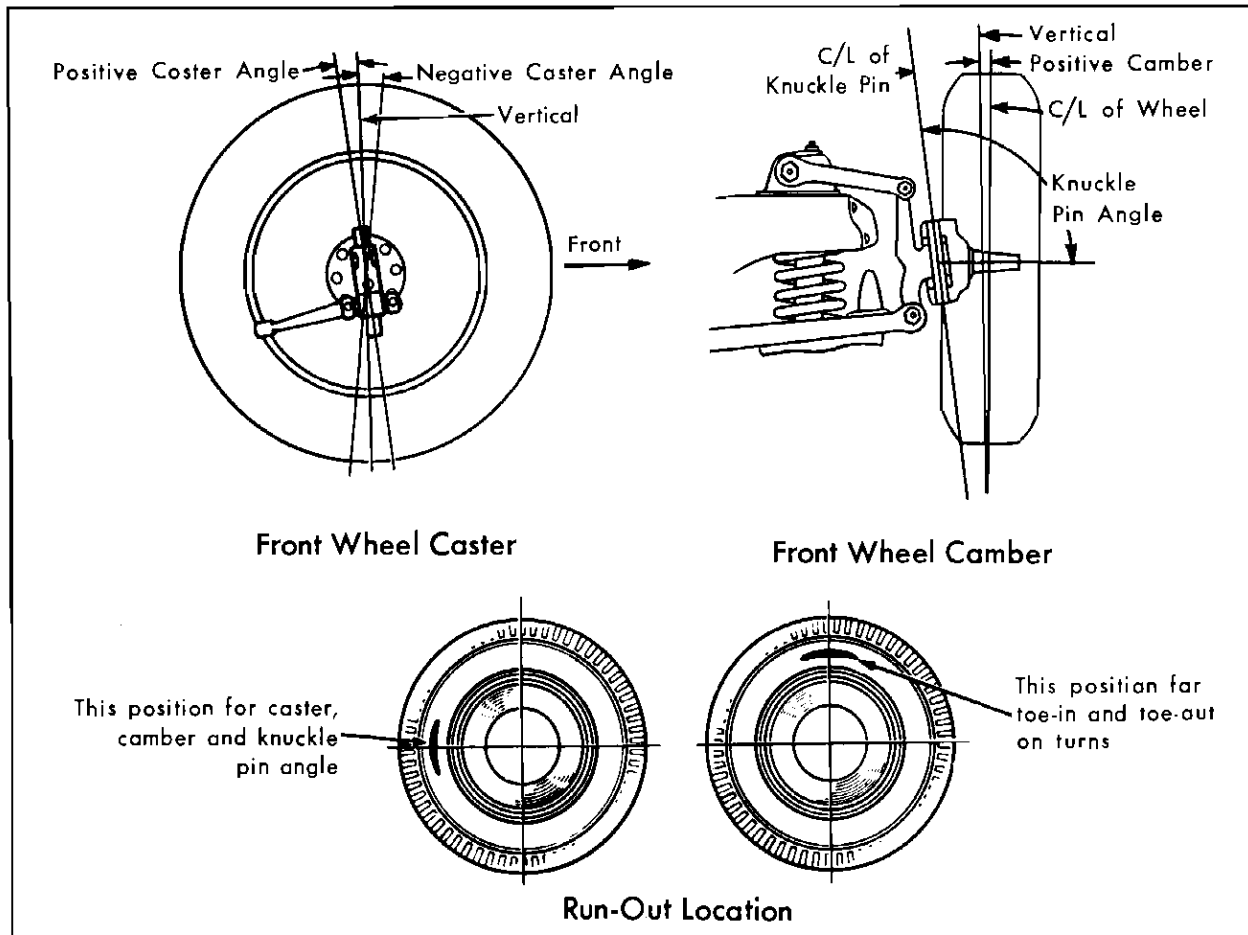

Fig. 6-6 Elements of Front Wheel Alignment
6. Place the maximum runout either to the front or rear as shown in Fig. 6-6. (This neutralizes the effect of runout on caster or camber.) Lower the wheels.
9. Raise front wheels and set maximum runout at top or bottom to neutralize effect on toe-in and toe-out. Fig. 6-6.
When checking toe-in, the readings should be taken only when the front wheels are in a straight ahead position and with steering gear on its high spot. Maximum tire runout should be in a vertical plane, as shown in Fig. 6-6.